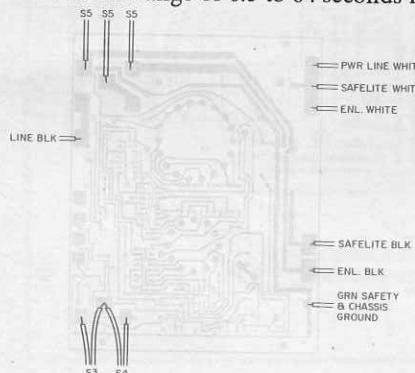
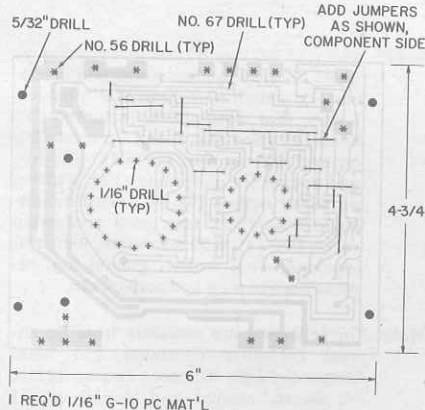
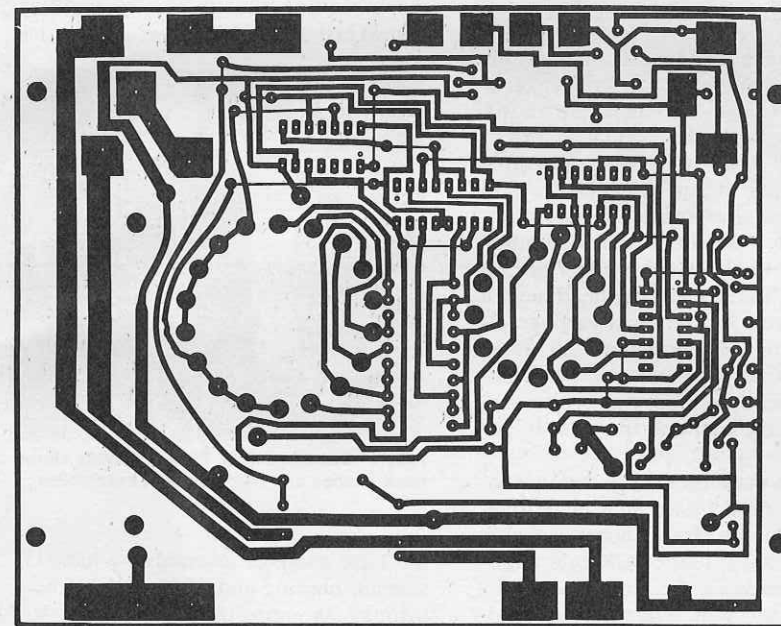

FIG. 2-EXTERNAL COMPONENTS connect to the circuit board as shown in this diagram.
FIG. 3-PC BOARD MECHANICAL DETAILS. Drill as indicated then install the jumpers.
FIG. 6—PATTERN FOR THE PC BOARD. It is 6 inches wide and 4 1/4 inches high overall. Use it to make photographic copy for your board.
MISC: 4 1/4" x 6" PC board (See text and Fig. 3, 4 and 5); case, bottom plate, end brackets (2); switch hardware; 1 1/8" push-on knobs; dial assemblies including 3/4" knob (2); (See Fig. 6 and 7); mounting bracket and red filter (APM 1813-27-R5) and socket for pilot lamps (2); 3 prong ac safety outlets (2); PC board mounting brackets (2); Line cord and strain relief; feet (4); 6-32 hardware; jumpers, sleeving, wire, solder, ground lug, remote control plug and socket, etc. . . .
A printed-circuit board is a must for this project and may be obtained commercially or the pattern in Fig. 6 may be used. Drilling and layout details are given in Figs. 2 and 3. Fig. 4 shows component and wiring locations.